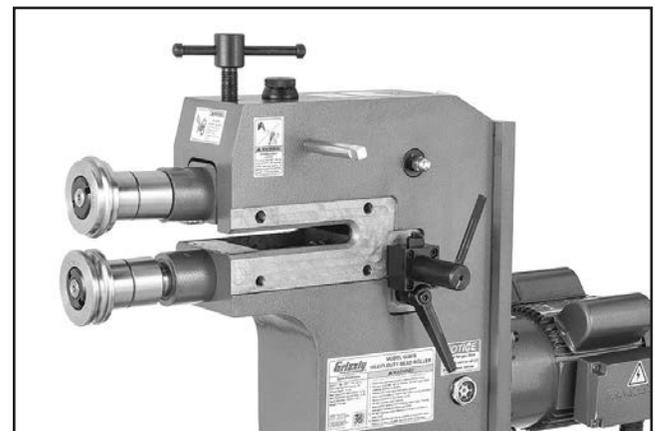

Figure 27. Machine set up for rolling curved or straight, non-parallel beads.
6. Remove fence clamp blocks and re-install lower mandrel (see **Figure 27**).